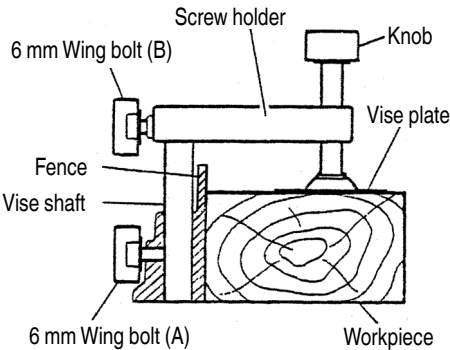

Fig. 23
- (1) The vise assembly can be mounted on either left side of the fence or right side of the fence by loosening the 6 mm wing bolt (A).
- (2) The screw holder can be raised or lowered according to the height of the workpiece by loosening the 6 mm wing bolt (B). After the adjustment, firmly tighten the 6 mm wing bolt (B) and fix the screw holder.
- (3) Turn the upper knob and securely fix the workpiece in position (Fig. 23).